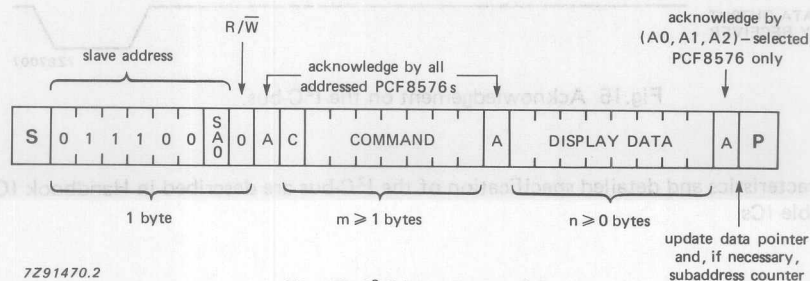

Fig.16 I²C-bus protocol.
The I²C-bus protocol is shown in Fig.16. The sequence is initiated with a start condition (S) from the I²C-bus master which is followed by one of the two PCF8576 slave addresses available. All PCF8576s with the corresponding SA0 level acknowledge in parallel the slave address but all PCF8576s with the alternative SA0 level ignore the whole I²C-bus transfer. After acknowledgement, one or more command bytes (m) follow which define the status of the addressed PCF8576s. The last command byte is tagged with a cleared most significant bit, the continuation bit C. The command bytes are also acknowledged by all addressed PCF8576s on the bus.